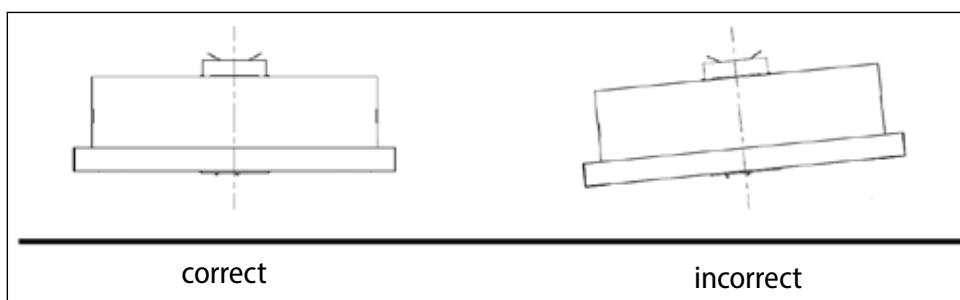

Fig. 6
5. Make sure that the hood is in the horizontal position in order to prevent grease (fat) from accumulating on one side of the appliance (Fig. 6).